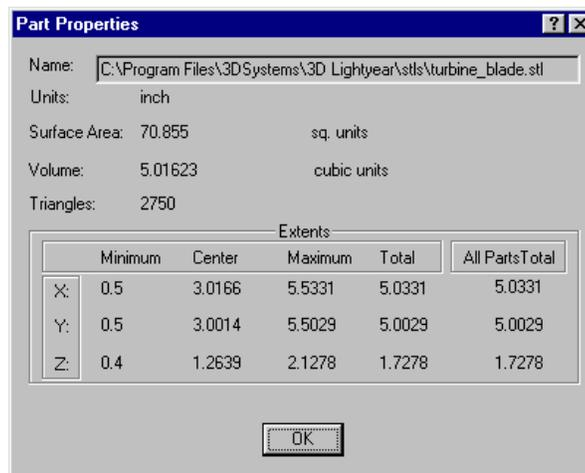

Figure 123. Part Properties Display Box
1. With at least one part selected, click the "Part Properties"...  icon open the "Part Properties" display as shown in Figure 123.